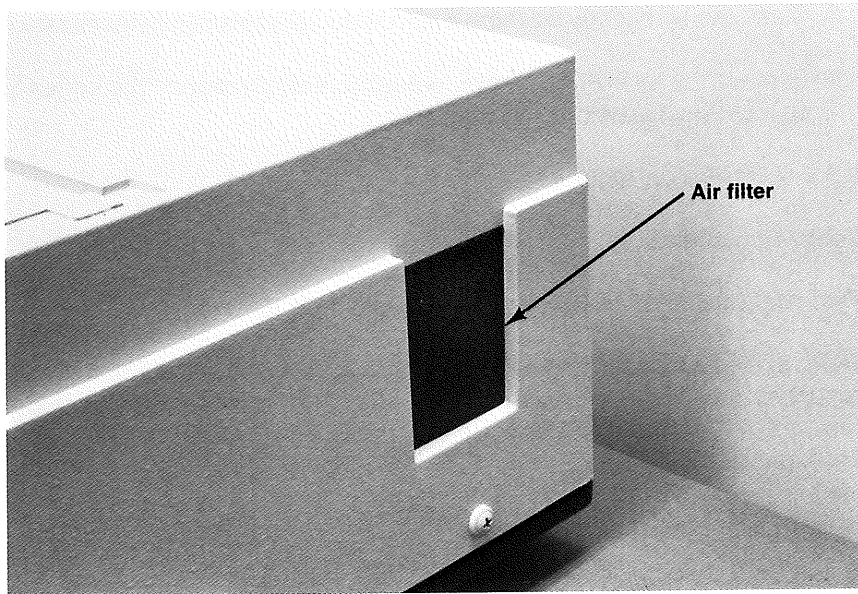

Figure 8-19.
1. The air filter is located on the right-hand side of the instrument cover, near the back, on the outside. See Figure 8-19.